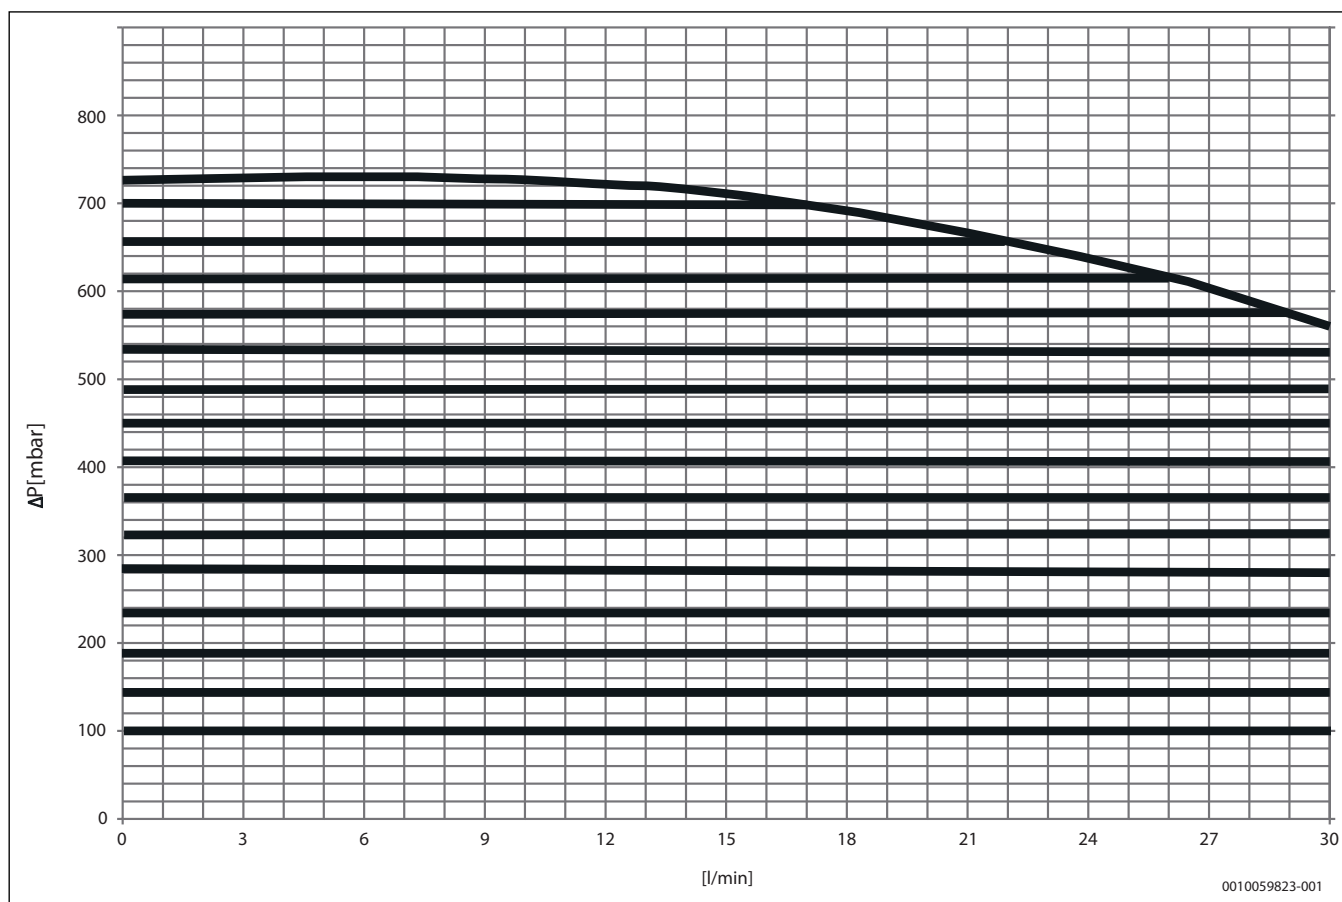

Fig. 5 Performance chart for heating circuit pump in heating circuit with constant pressure
2) The available pressure depends on the connected heat pump or the hydraulic decoupling (→ performance chart for heating circuit pump, Figure 5)